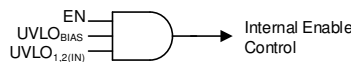

Figure 41. Simplified Turnon Control
Controlling when a single power supply turns on can be difficult in a power distribution network (PDN) because of the high power levels inherent in a PDN, and the variations between all of the supplies. Figure 41 and Table 2 show that the LDO turnon and turnoff time is set by the enable circuit (EN) and undervoltage lockout circuits ( $UVLO_{1,2(IN)}$  and  $UVLO_{BIAS}$ ).